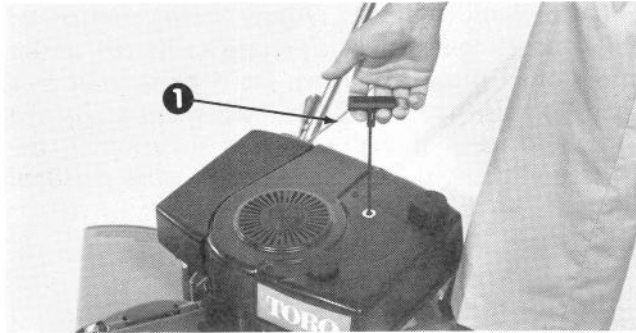

Figure 8
**Recoil Starter** (Fig. 8) — After moving throttle control to START position, pull fingertip starter to start the engine.